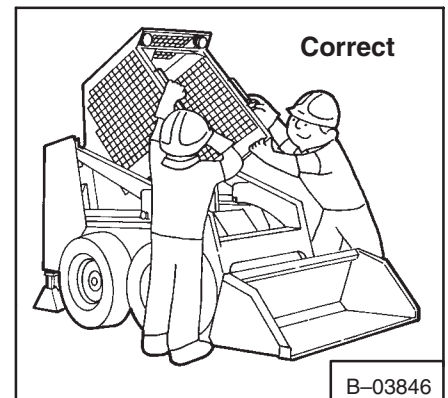

Fig. 5-3 Raising Operator Guard (Correct)
7. Stand on the ground, one person on each side and lift the operator guard using the grab handles and the bottom of the operator guard (Fig. 5-3).
5. Both persons must slowly lower the operator guard by holding the bottom of the operator guard and the grab handles (Fig. 5-3).